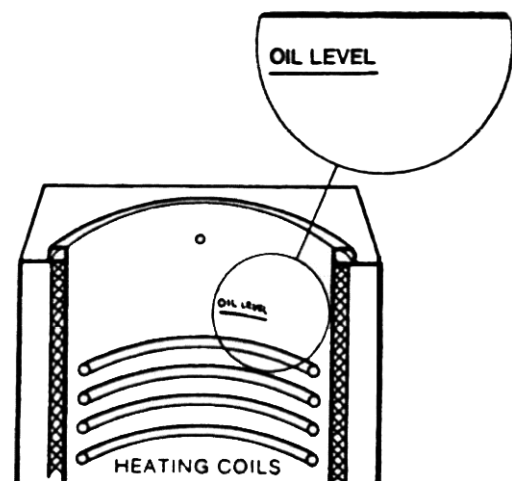

FIGURE 6
1. Check to see that cooking oil level is at 'OIL LEVEL' line (see FIG. 6, PAGE 13).